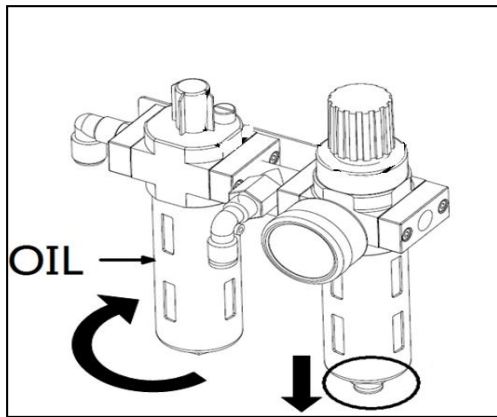

FIG25
- Periodically check the height of the in the oil fogger. If it is lower than the oil scale, please fill in the SAE30 grease. Periodically drill out the water and impurity in the oil-water separator. (Fig25)